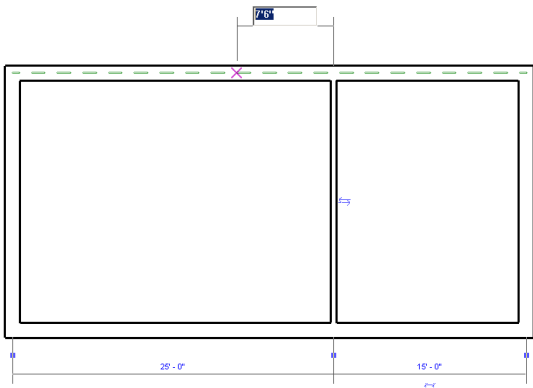

Figure 3-58 Specifying the starting point of the second interior wall
1. To sketch the second interior wall, move the cursor to the upper endpoint of the interior wall you just created and then move the cursor horizontally toward the left. When the temporary dimension and the intersection object snap appears, enter **7'6"(2286 mm)**, as shown in Figure 3-58. Now, press ENTER; the start point of the second interior wall segment is specified on the upper horizontal exterior wall.